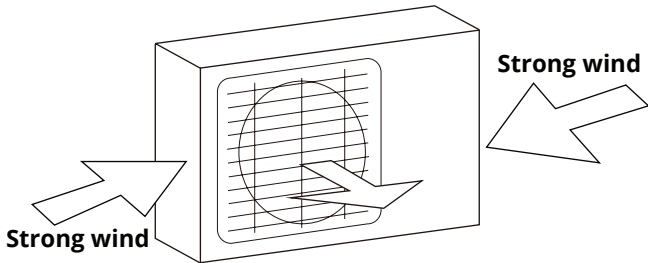
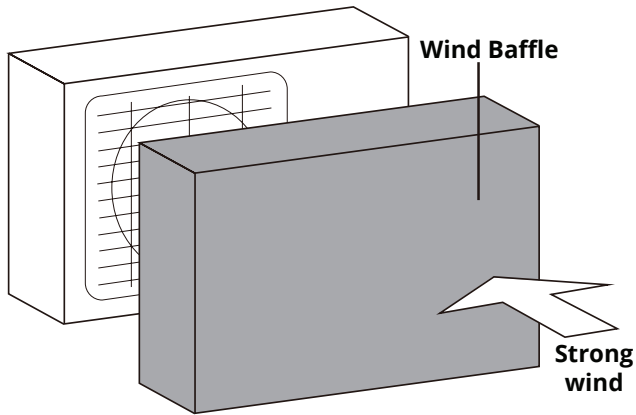

Fig. 4.2
Fig. 4.3
**If the unit is exposed to heavy wind:** Install the unit so the air outlet fan is at a 90° angle to the direction of the wind. If needed, build a barrier in front of the unit to protect it from extremely heavy winds. Ensure the wind barrier does not block necessary airflow. See Fig. 4.2 and Fig. 4.3 below.